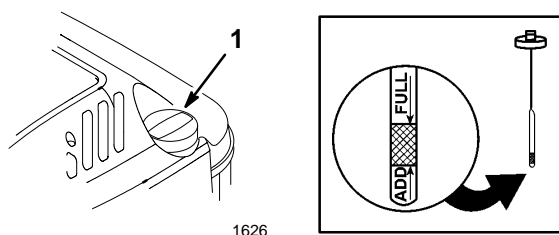

Figure 4
- Remove the dipstick and check the level of the oil on the side of the dipstick with the FULL and ADD marks (Fig. 4).
Before each use, ensure that the oil level is between the FULL and ADD marks on the dipstick (Fig. 4). Add oil if the level is low.
- Position the mower on a level surface and clean around the dipstick (Fig. 4).